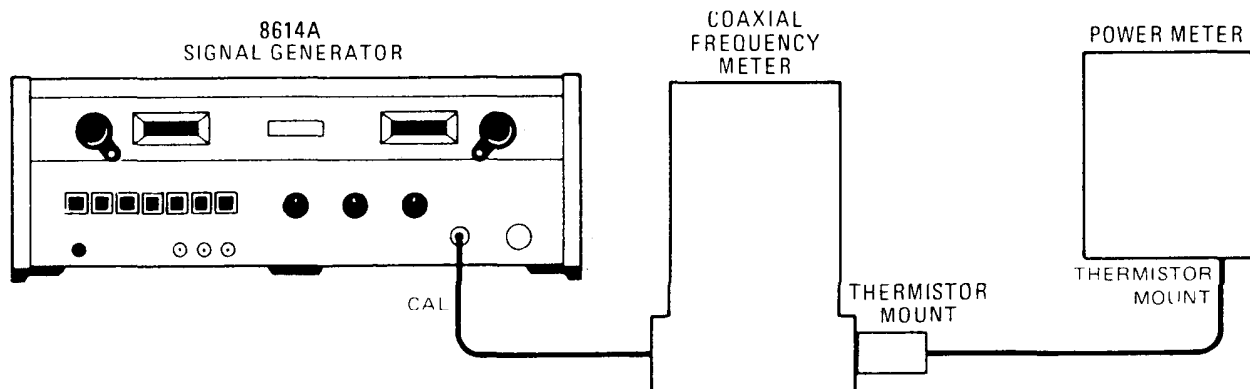

Figure 5-1. Frequency and Power Measurement
- a. Connect equipment as shown in Figure 5-1.
- FREQUENCY (MC) 800
- a. Connect instruments as shown in Figure 5-1, omitting the frequency meter.
- a. Connect instruments as shown in Figure 5-1, omitting the frequency meter and attenuator.